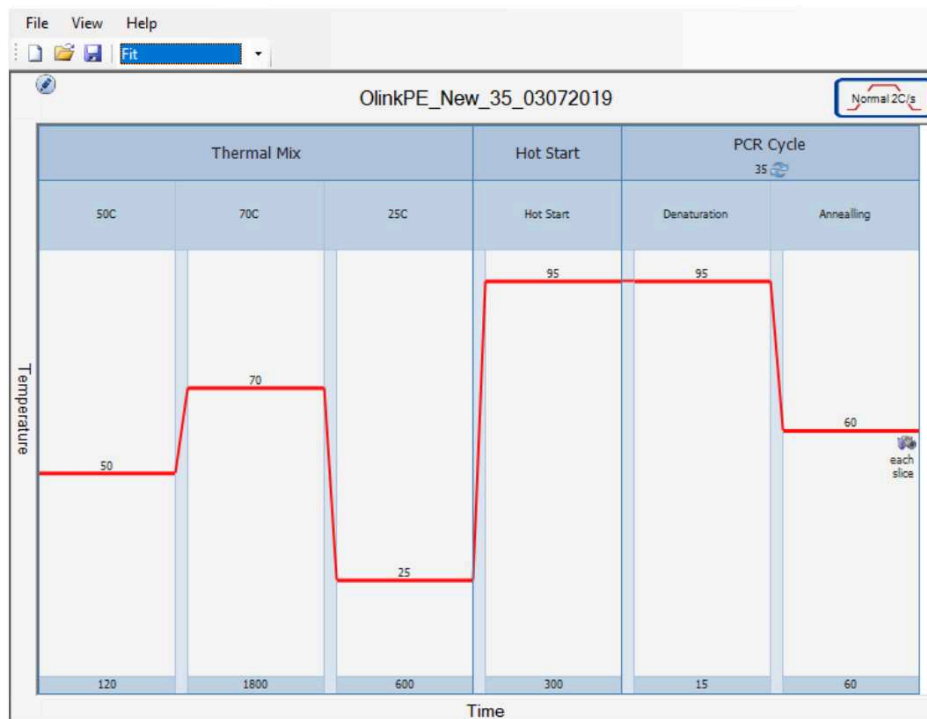

Figure 5 Olink Protein Expression 96x96 Program
- 45 Select the "Olink_PE_96X96_New_35_03072019.pcl" protocol from the Olink folder on the desktop. Verify the protocol according to Figure 5. Then "Next"